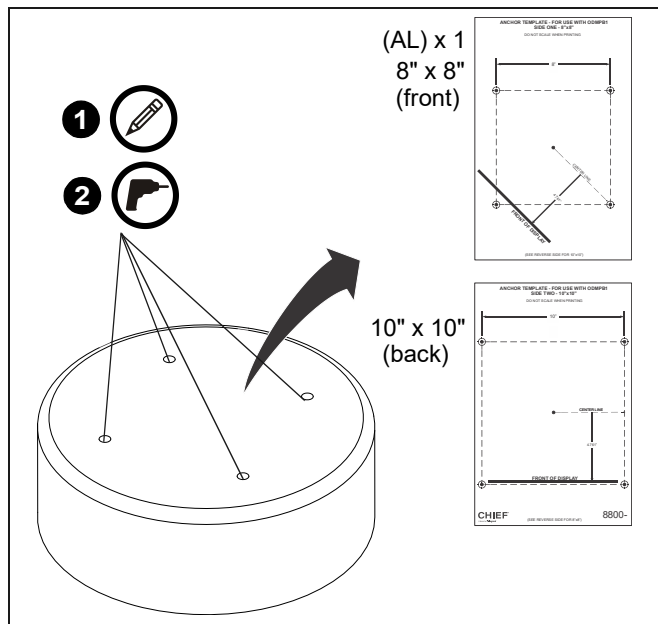

Figure 1
1. Determine the mounting location of the base. Mark the locations of four mounting holes. (See Figure 1)
2. If installing into existing concrete, hammer drill one hole at each marked location. Ensure holes are at least 3" from nearest concrete edge. Remove debris from holes. (See Figure 1)